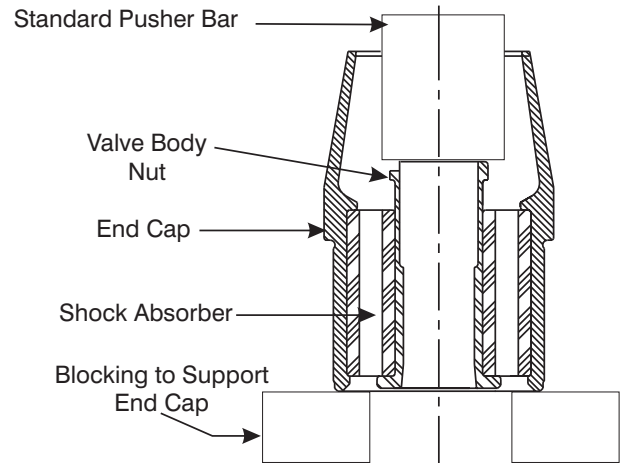

Figure 8-21. End Cap in Arbor Press.
2. With threaded end down, place the End Cap in the arbor press as shown in Figure 8-21.
standard push bar of the required diameter, as shown in Figure 8-21.